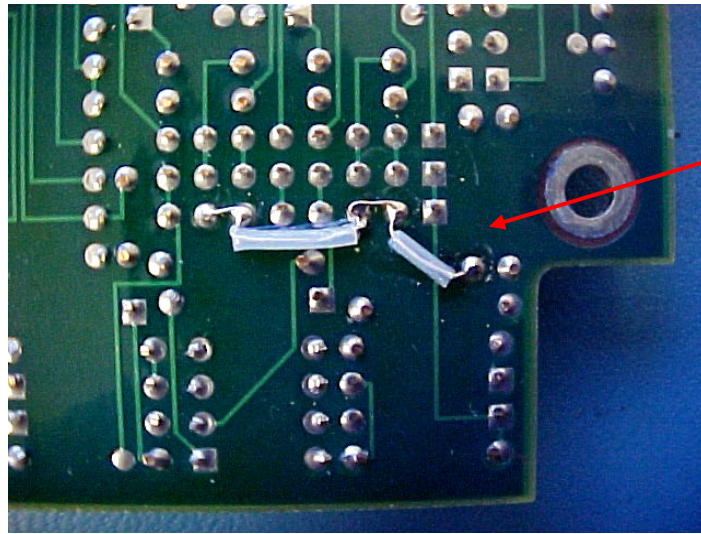

Figure 1
2. Daisy-chain Item 1 from R3165 pins 2, 3, 6, 7 to the ground side of R3124 (Ref. Figures 1 and 2).